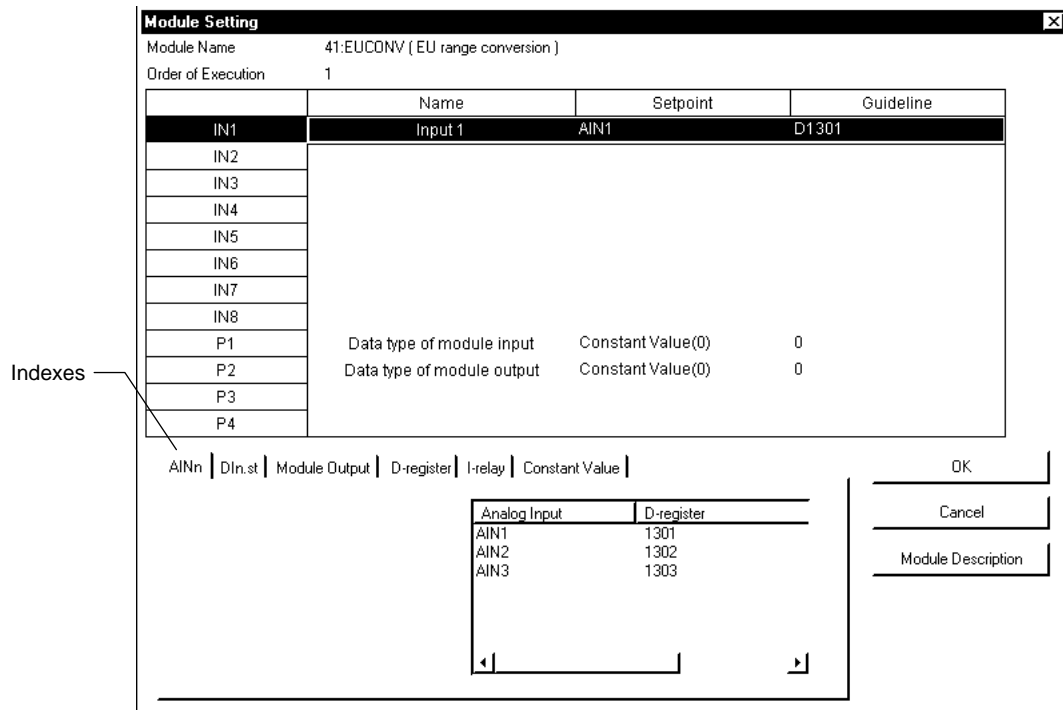

Figure 6.1.7 [Module Setting] Dialog Box
- ① In the [Input Block] or [Output Block] dialog box, click the computation module whose inputs or parameters you want to reconfigure.
- The [Module Setting] dialog box (Figure 6.1.7) appears.